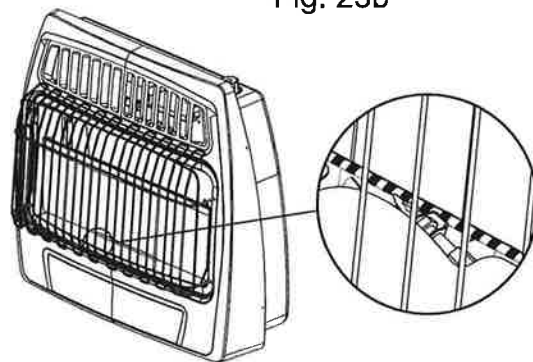

Fig. 24 - Pilot Flame Location
6. With control knob depressed, repeatedly push down the piezo ignitor "⚡" until the pilot lights. The pilot is visible centered below the plaques, behind the front grill. (See Fig. 24)
7. Keep control knob depressed for (30) seconds after pilot lights. Release control knob.
**Note:** If pilot goes out repeat steps 3 through 7. Wait (1) minute before attempting to light pilot again.
6. With control knob depressed, repeatedly push down the piezo ignitor until the pilot lights. The pilot is visible centered below the plaques, behind the front grill. (See Fig. 24)
7. Keep control depressed for (30) seconds after pilot lights. Release control knob.
**Note:** If pilot goes out repeat steps 3 through 7. Wait (1) minute before attempting to light pilot again. If after several tries the pilot still goes out, turn the gas control knob clockwise ↷ to the "OFF" position and call your service technician or gas supplier. If the control knob does not pop up when released, stop and immediately call your service technician or gas supplier.